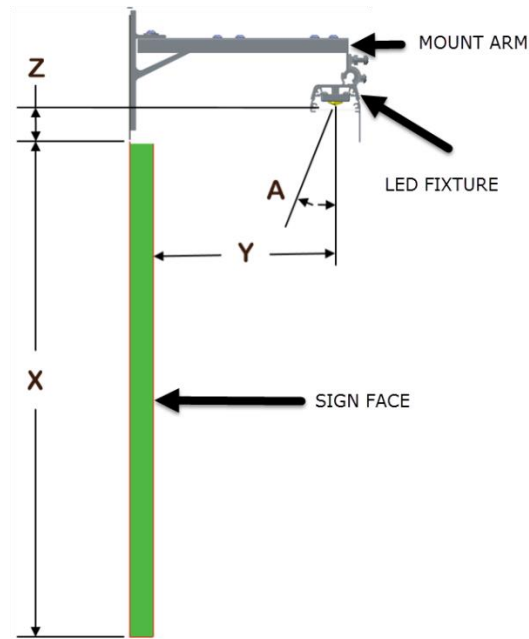

Figure 1: Mounting Diagram
Figure 1 shows a mounting diagram for Linear Star. Note the location of the fixture relative to the sign surface. The Head Angle is critical to achieve uniform lighting on the sign surface and depends on the sign height as shown in Table 1.
1. The LED Fixture must be located roughly 15" from the sign face. Adjust the Mount Bracket along the Mount Arm if needed to accomplish this. The swivel on the Mount Bracket is pre-installed at a 21" distance from the wall, which is good for a 6" deep sign. See Figure 1.